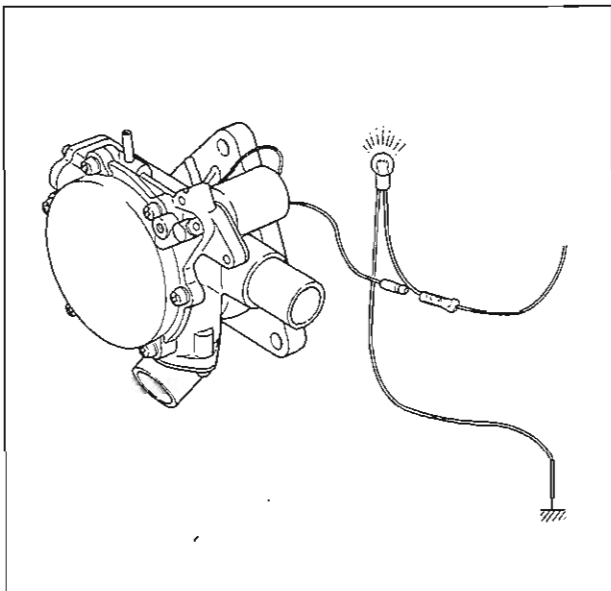

Fig. 1A-69 Connecting test lamp
2. Disconnect the air control valve lead and connect the test light as shown in Fig. 1A-69.